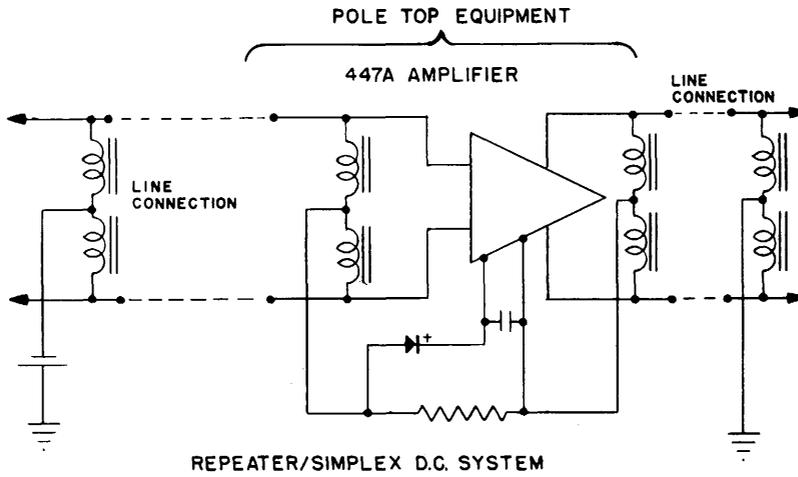

FIG. 4
2.04 Simplex power supplies can be used as in Fig. 4. This shows an arrangement in which center tapped chokes are used to simplex the DC voltage at the terminal stations and at the input and the output of the amplifier, a bypass resistor provides proper voltage drop, a protective diode guards against inadvertent polarity reversal and a filter circuit limits line noise and hum from degrading the speech signals.